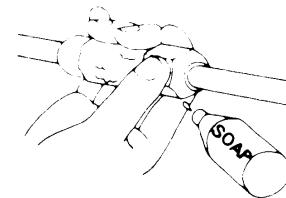

Fig. 34
- f) Leak test the joints with liquid soap. If no leakage, wipe off the soap. Fig. 34